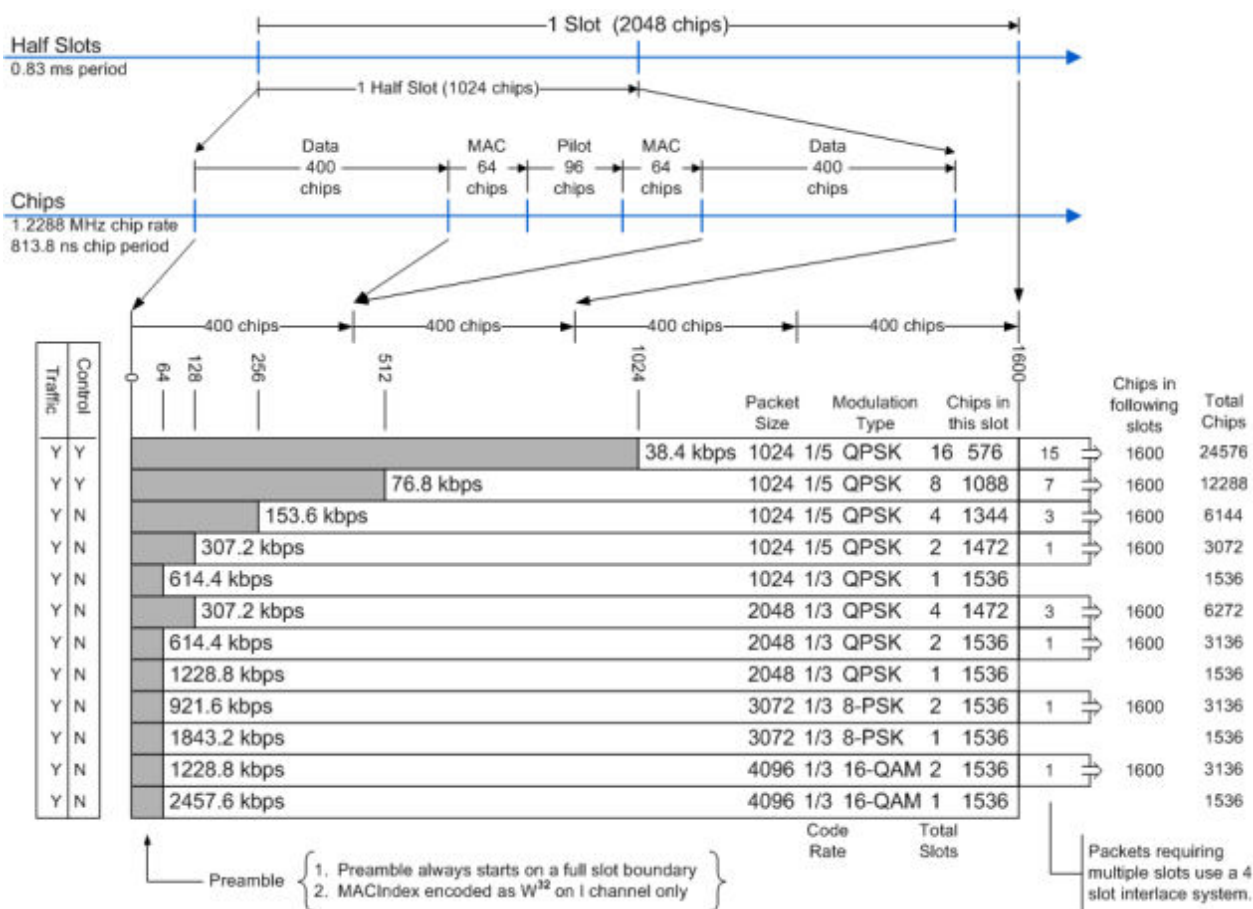

Figure 4-1: Slot structure, chip distribution and preamble lengths in 1xEV-DO BTS application
The 1xEV-DO standard defines the BTS channel types. 1xEV-DO forward link signals contain 4 channel types which are sent exclusively at specific times (see also Figure 4-1):
- **MAC:** The Medium Access Control channel type is 64 chips in front of and behind the PILOT. The MAC channel type contains the reverse activity (RA) channel and the MAC reverse power control (RPC) channels with which the power of the active terminals is controlled. The MAC indices described in the standard MAC can be transformed into Walsh codes very easily. The analysis for the MAC channel type is performed with spreading factor 64. BPSK-I and BPSK-Q modulation are used.
- **DATA:** The DATA channel type is located with a length of up to 400 chips at the beginning and end of each half slot. The useful data is transmitted in it. As shown in Figure 4-1, there are packets that transmit their data distributed over 1, 2, 4, 8 or 16 slots, depending on the transmission rate. Initially, a PREAMBLE range is transmitted, being between 64 and 1024 chips long - followed by the data. If more than one slot is required for transmission, the other data of this data packet follows at intervals of four slots, then without another preamble. In the DATA channel type, QPSK, 8-PSK and 16-QAM modulation types are used. Analysis is performed with a spreading factor of 16.